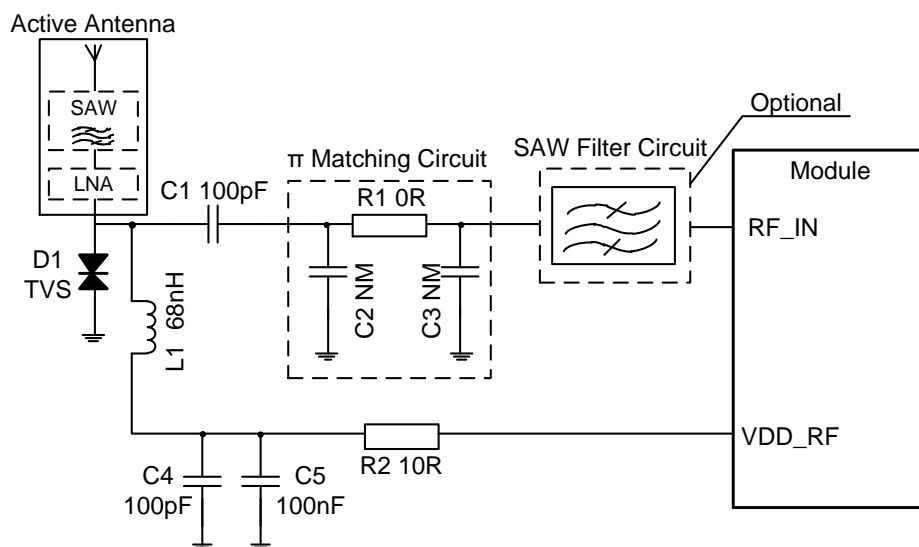
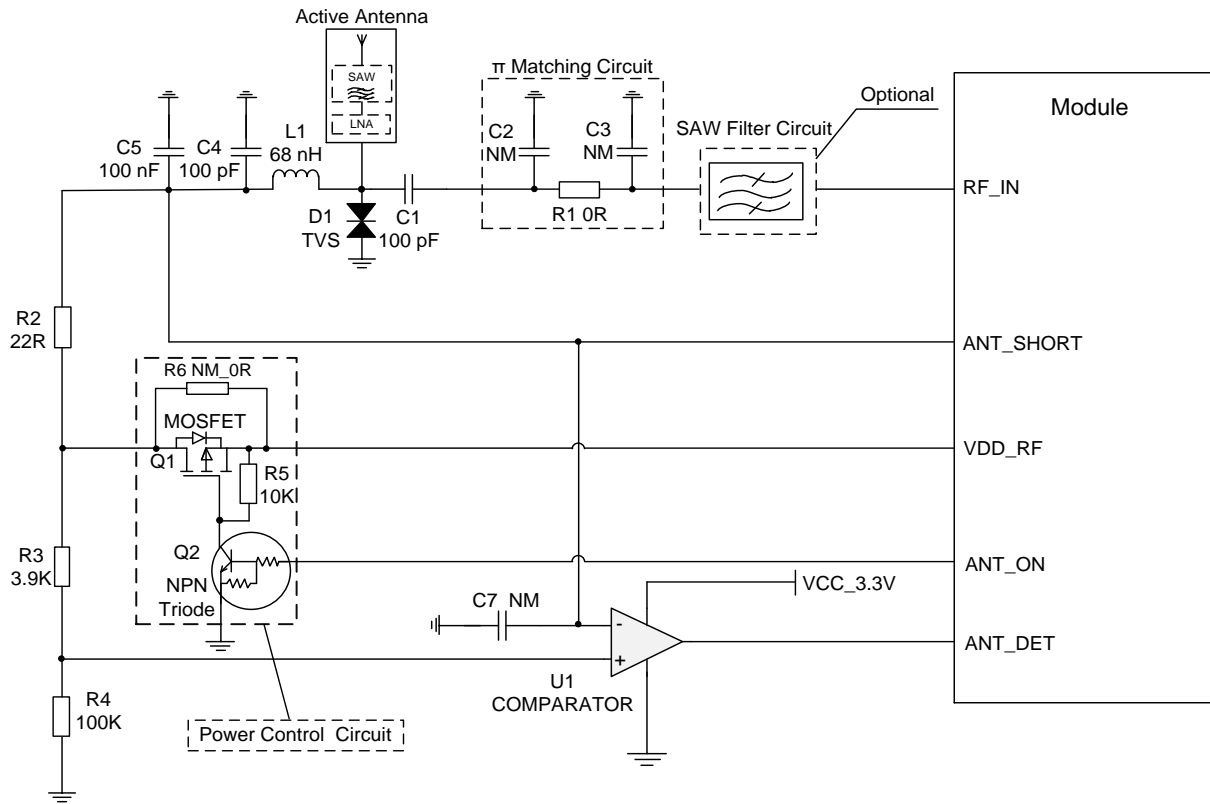

Figure 16: Active Antenna Reference Design Without Status Detection
Figure 17: Active Antenna Reference Design with Status Detection
See Figure 16: Active Antenna Reference Design Without Status Detection and Figure 17: Active Antenna Reference Design with Status Detection for more details.
1. R2 in the Figure 17: Active Antenna Reference Design with Status Detection is a must, otherwise the module may be damaged permanently through potential short-circuiting of the active antenna.